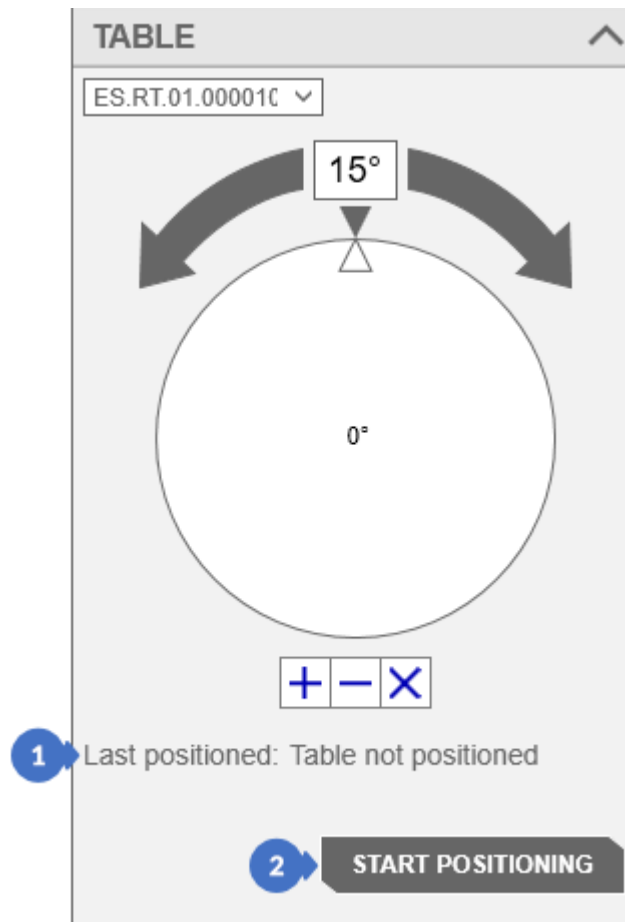
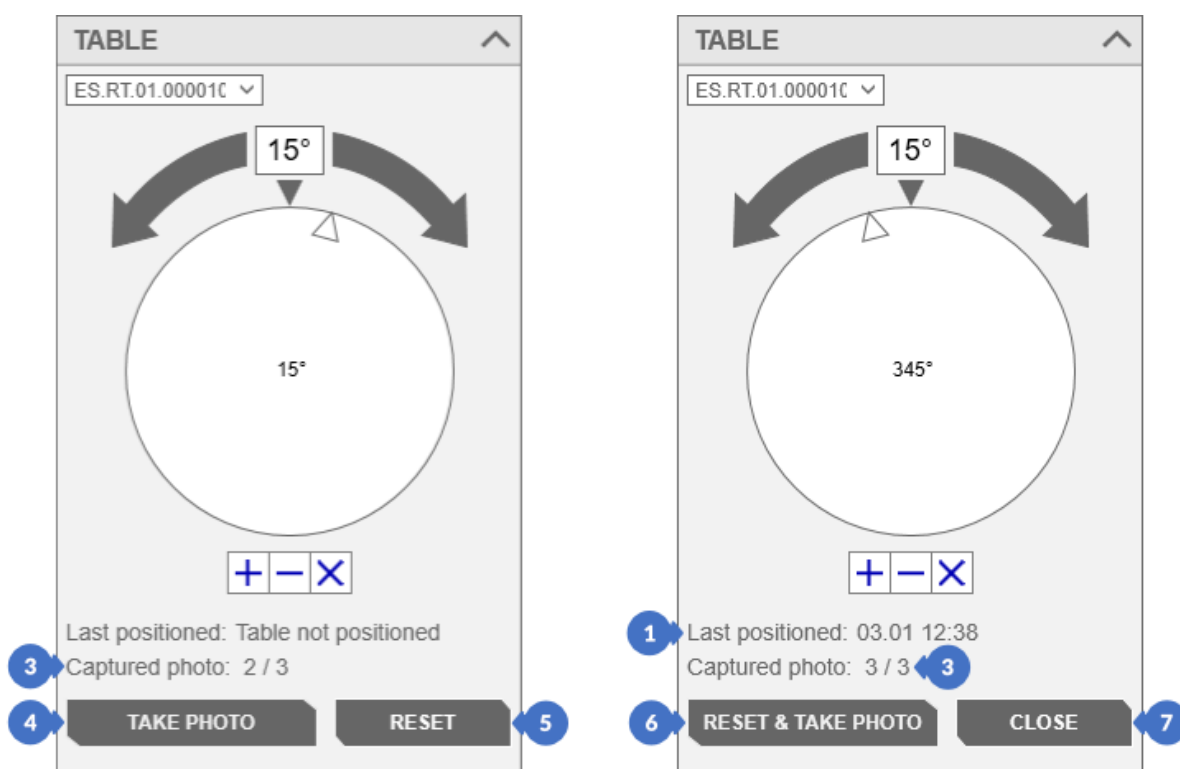

Figure 218. Rotary table positioning process
Figure 220. Rotary table positioning process – second and third photo
The properly positioned rotary table has information (month, day and time) in the *Last positioned* field (1) about the last table positioning operation. The *CLOSE* button (7) (Figure 220) hides the positioning buttons, leaving only one initial *START POSITIONING* (2) (Figure 218).